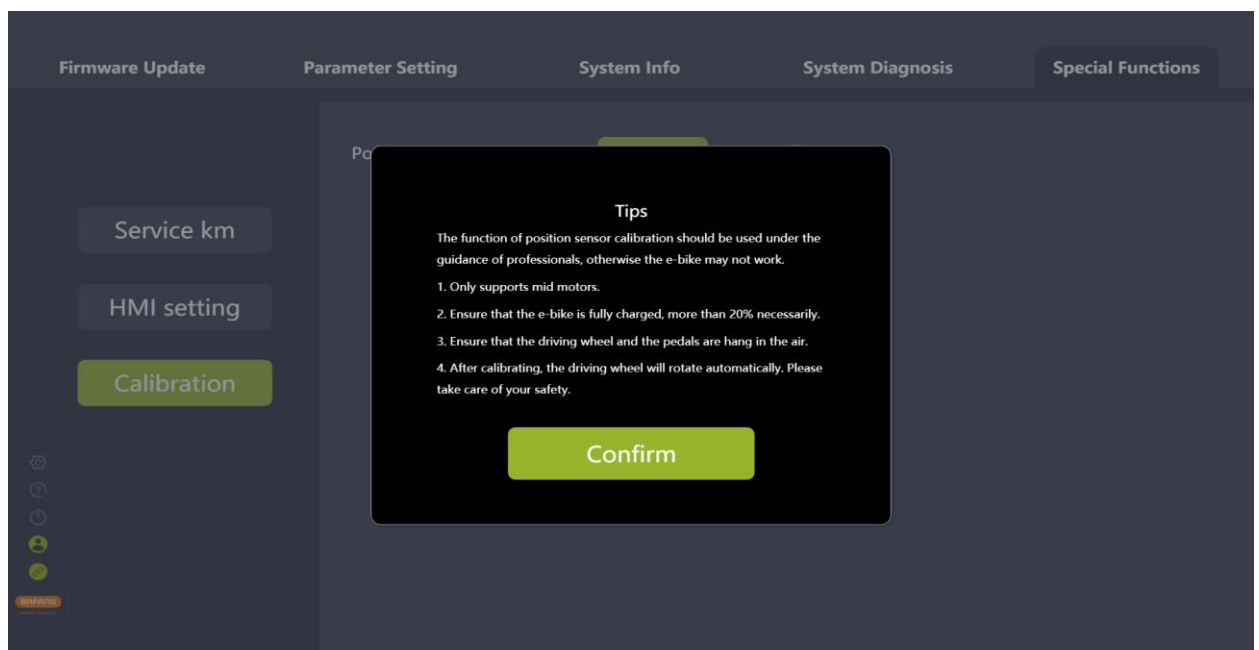

Fig. 8-6 Tips for position sensor calibration
- (3) Click the icon next to the icon "Start" to view the tips for position sensor calibration (Fig.8-6).